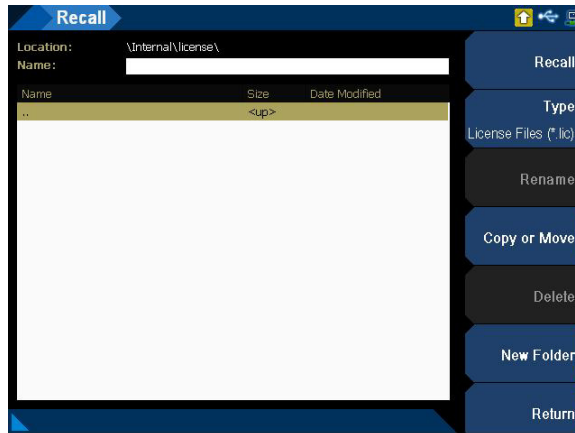

Figure 1-10 Recall menu page
- 5 Select the U8903B option file to be loaded, and press the **Recall** softkey as shown in **Figure 1-10**.